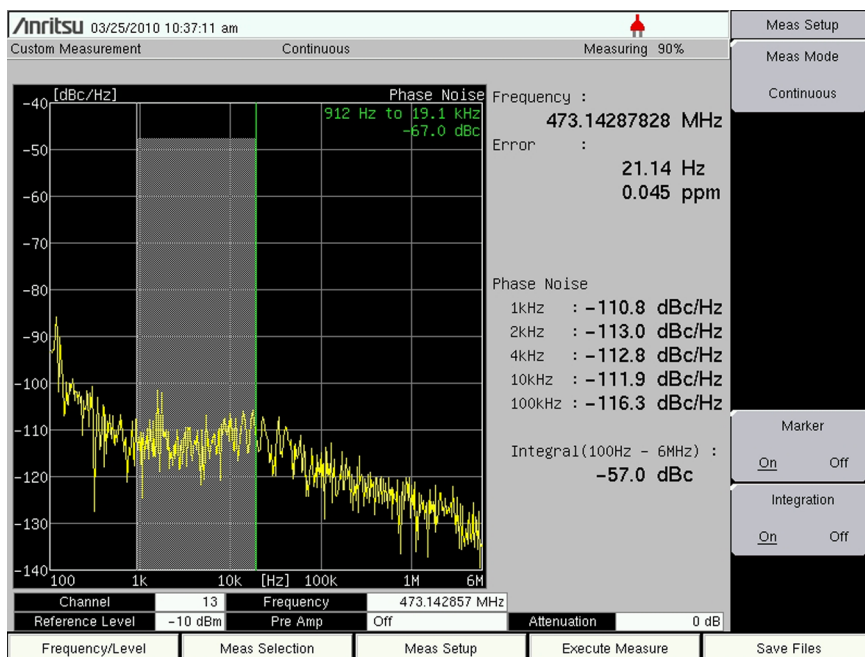

Figure 4-23. Transmitter Phase Noise Measurement with Integration Marker On
6. Press the **Integration** submenu key to add the integration marker on the graph. The range between the standard marker and the integration marker is shown in white between 2 vertical green lines on the graph. The differences in point measurements from the standard marker to the integration marker are displayed in green at the top right corner of the Phase Noise graph as a frequency range and a dBc value. The sample image in Figure 4-23 may differ from any display on your instrument.